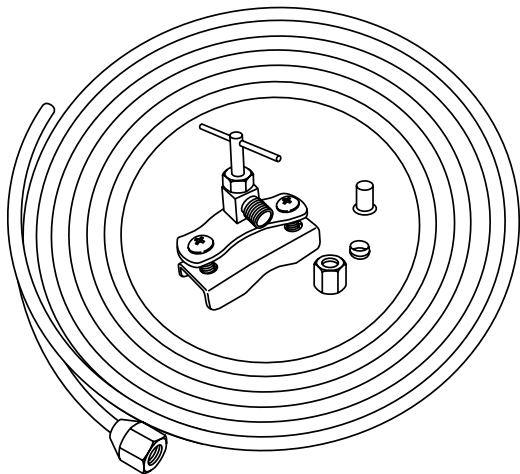

Figure 13
- Use a 1/4" OD copper line to connect the water supply to the solenoid valve. **This is not supplied with the refrigerator (Figure 13).**